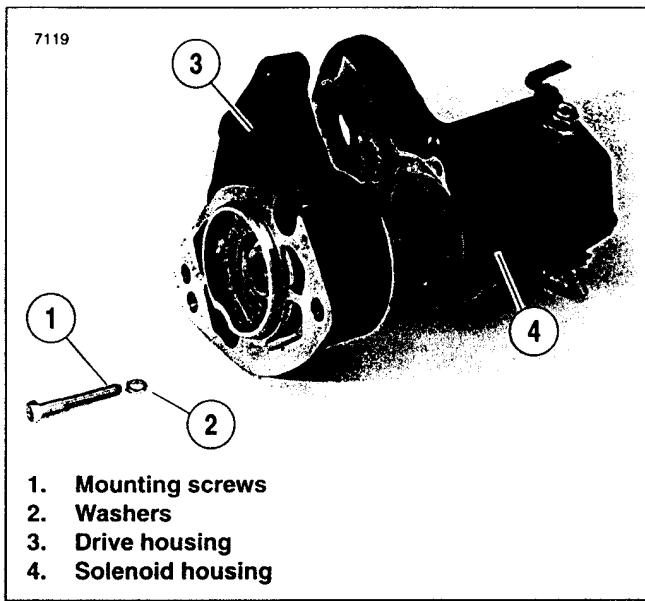

Figure 5-22. Starter Drive Assembly
16. See Figure 5-22. Remove two drive housing mounting screws (1) and washers (2). Remove drive housing (3) from solenoid housing (4).